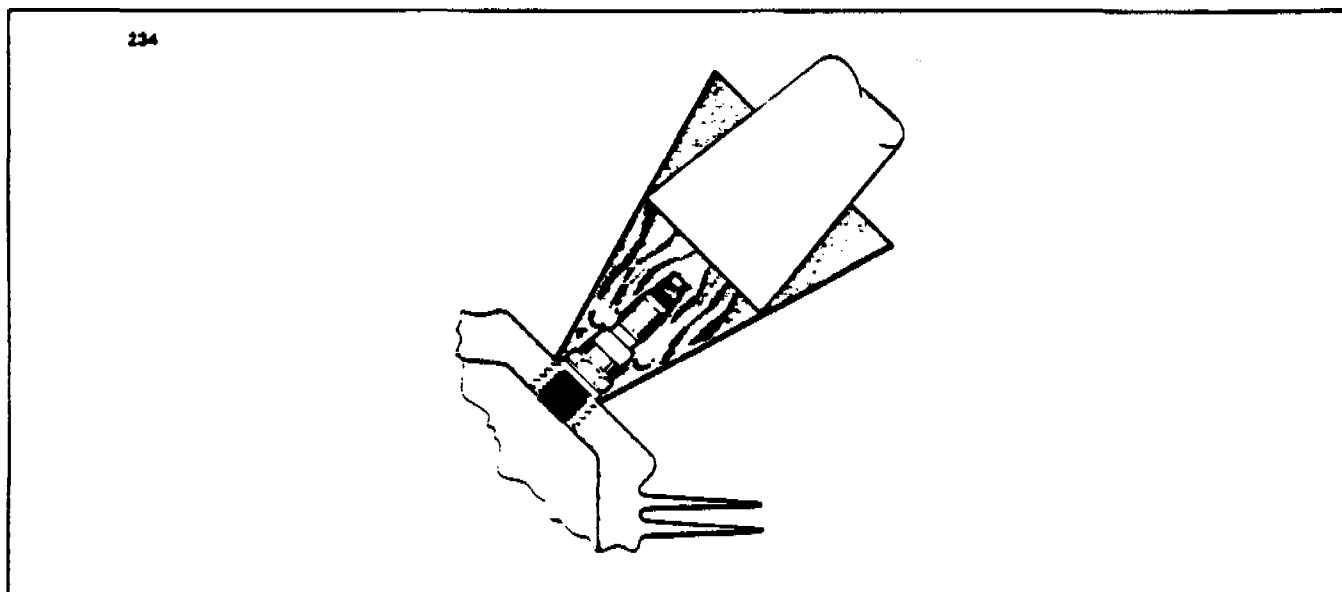

FIGURE 7-17. REMOVING SEIZED SPARK PLUG
d. Removal of seized spark plugs in the cylinder may be accomplished by application of liquid carbon dioxide by a conical metal funnel adapter with a hole at the apex just large enough to accommodate the funnel of a CO₂ bottle. (Refer to Figure 7-17.) When a seized spark plug cannot be removed by normal means, the funnel adapter is placed over and around the spark plug. Place the funnel of the CO₂ bottle inside the funnel adapter and release the carbon dioxide to chill and contract the spark plug. Break the spark plug loose with a wrench. A warm cylinder head at the time the carbon dioxide is applied will aid in the removal of an excessively seized plug.